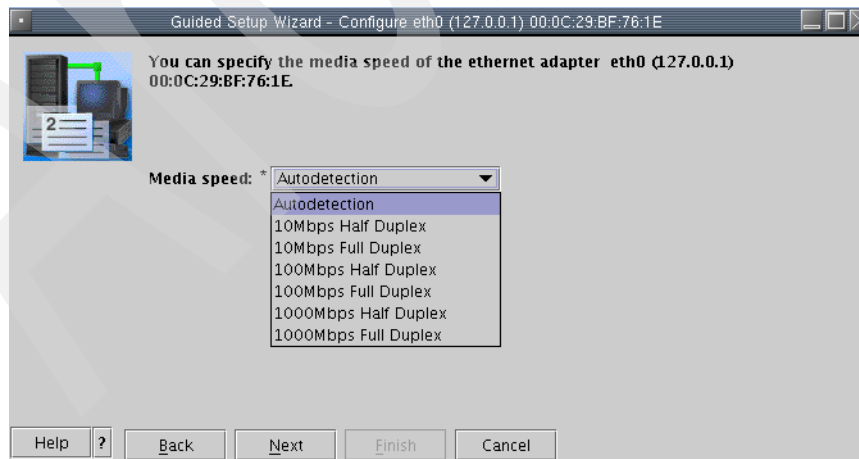

Figure 4-15 Guided Setup Wizard - Configure LAN adapter eth0
15. The Guided Setup Wizard - Configure eth0 display is then shown (Figure 4-15). You can normally leave the LAN adapter speed at automatic detection for the initial setup. However, you can set each adapter to your actual network speed if you know this.